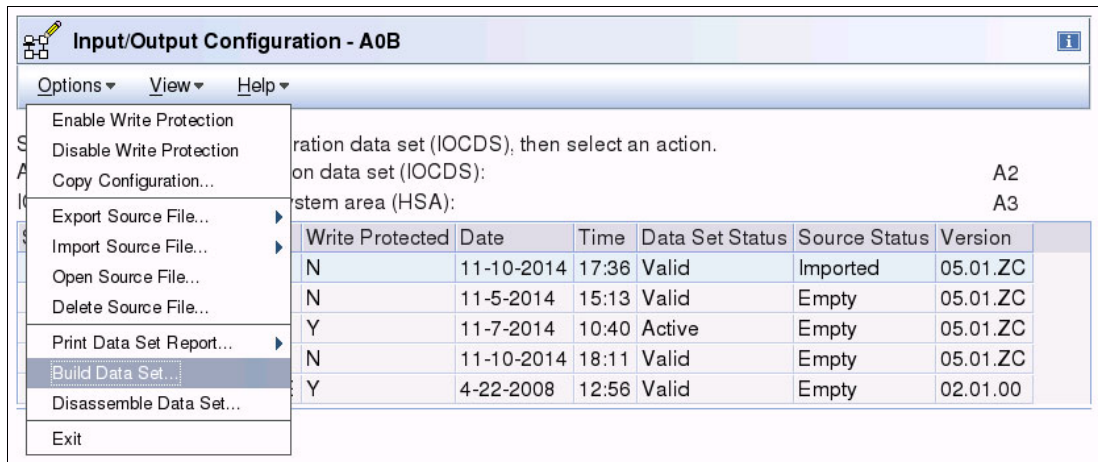

Figure 6-135 HMC - SAIOCP: building the IOCDS
15. Click **Options** → **Build Data Set** (Figure 6-135).